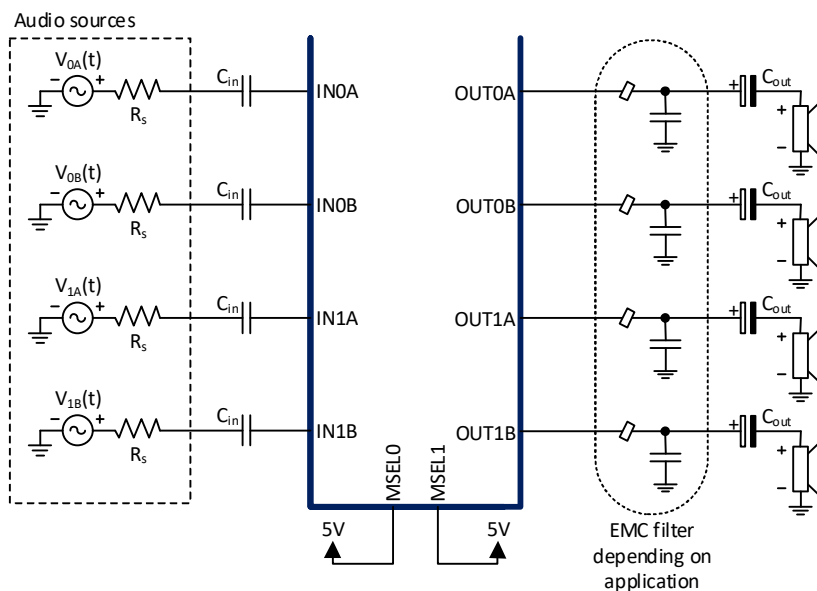

Figure 9-3 Four channel, single ended (SE) configuration
In single ended (SE) configuration, the MA12070 is able to drive one loudspeaker per output power stage, i.e. up to four loudspeakers. The output is biased to half the power supply voltage, $\frac{1}{2}$ PVDD. One of the solutions to drive a speaker in this configuration is to use AC-coupling capacitors (C_{out}) in series with the load, as shown in Figure 9-3. The value of the capacitors depends on the load resistance and the desired audio bandwidth.